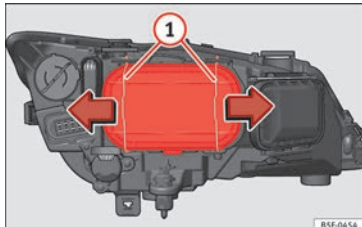

Fig. 103 Dipped beam headlights.
- Move the loops »» Fig. 103 ① in the direction of the arrow and remove the cover.